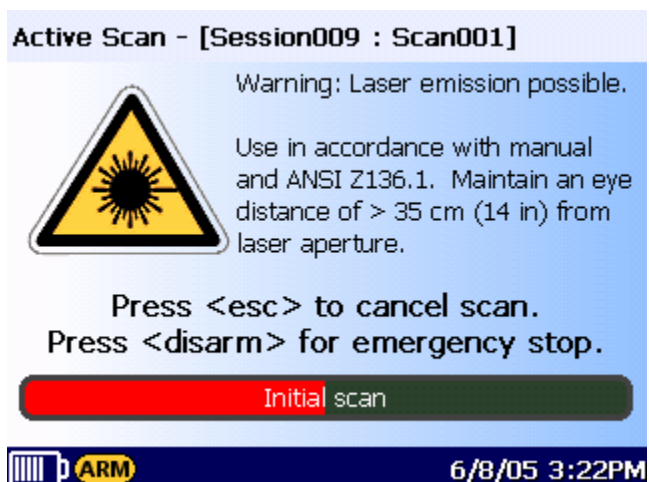

Figure 2-6: Laser Warning Screen
- h) The *Laser Warning* screen (Figure 2-6) will be presented and the system will automatically go through the data acquisition process, as indicated by the legend in the red bar at the bottom of the screen.